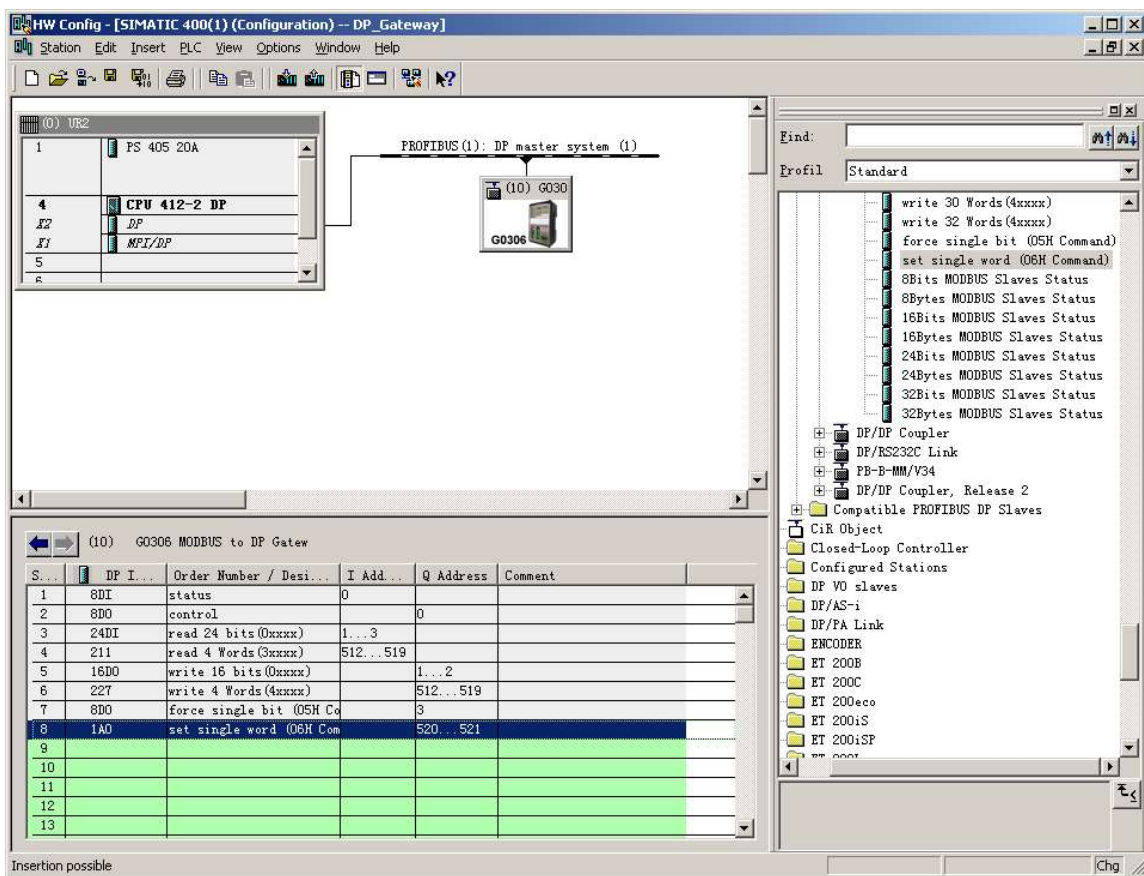

Figure 31 Add “set single word (06H Command)” module
a) Add “set single word (06H Command)” module, as shown in Figure 31: